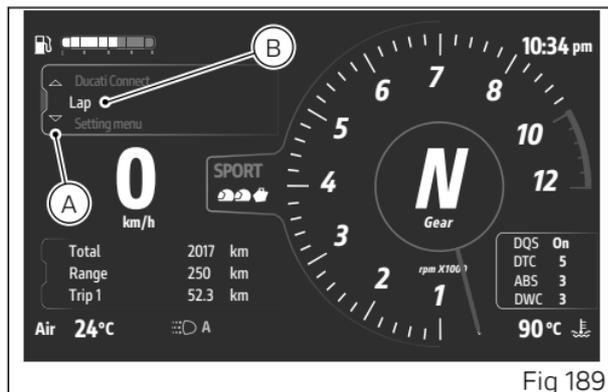

Fig 189
- Select the Interactive Menu (A, Fig 189) by pressing and holding the joystick in position ▲ for a long time.
- Use the joystick ▲ ▼ to select "Lap" (B, Fig 189) and press ENTER.